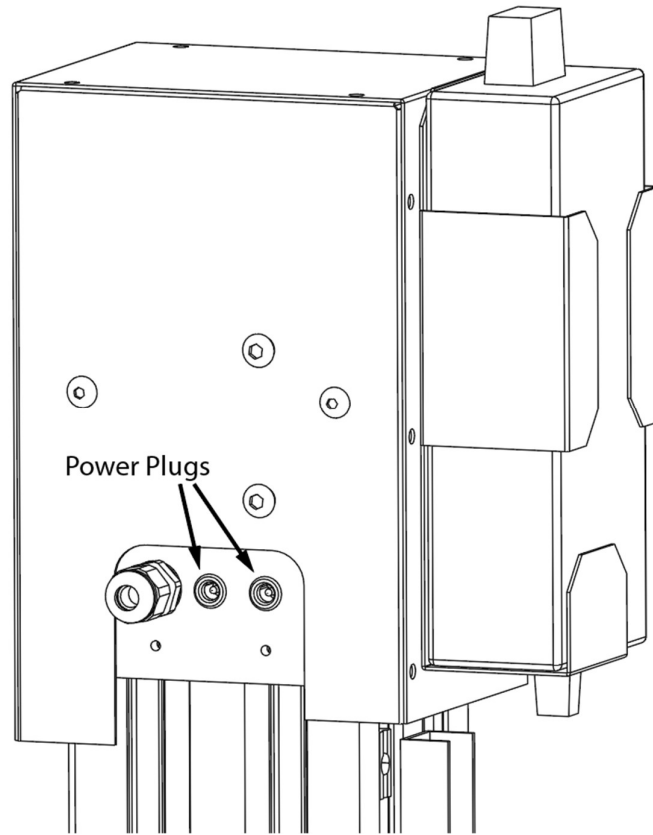

Figure 4: Top power plugs and power supply bracket
9. Locate the power supply bracket in the power supply box and mount it to either the top cover or motor cover of the stand (depending on which power plug you will be using), with the included M4 screws from the same box and a 2.5 mm hex wrench. See **figures 4 and 5**.
10. Plug the power supply unit into an electrical socket and one of the three power plugs on the stand (**figures 4 and 5**).